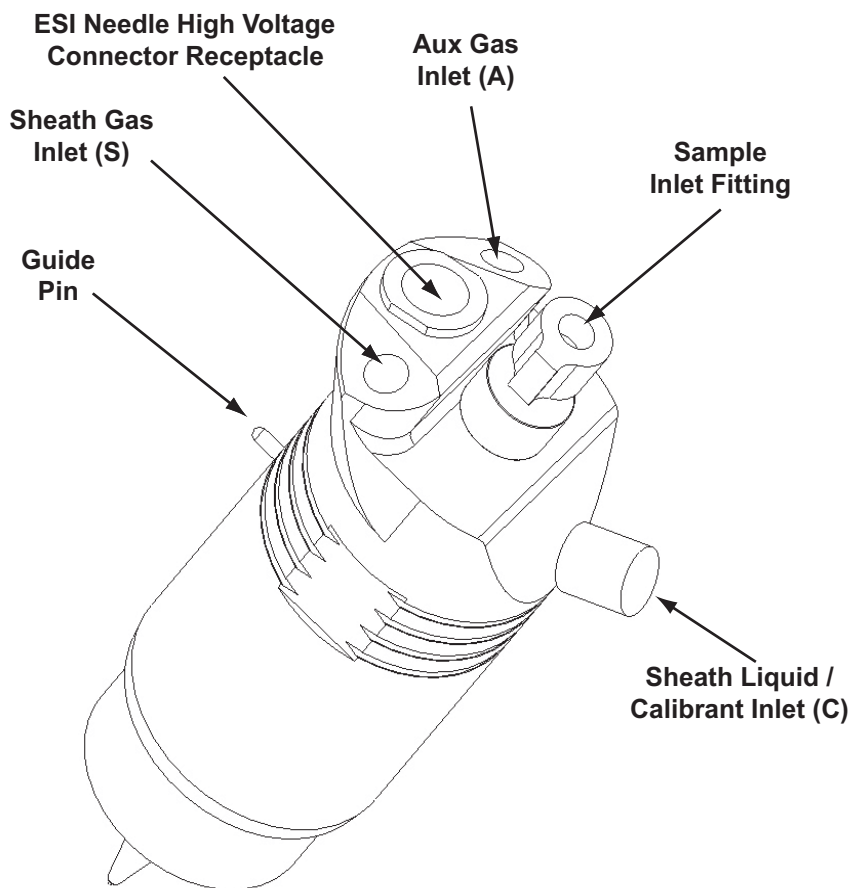

Figure 14. ESI probe, side view
3. Insert the ESI probe into the port in the ion source housing, align the guide pin on the probe body at a minus 45 degree angle from the API interlock block. See Figure 14